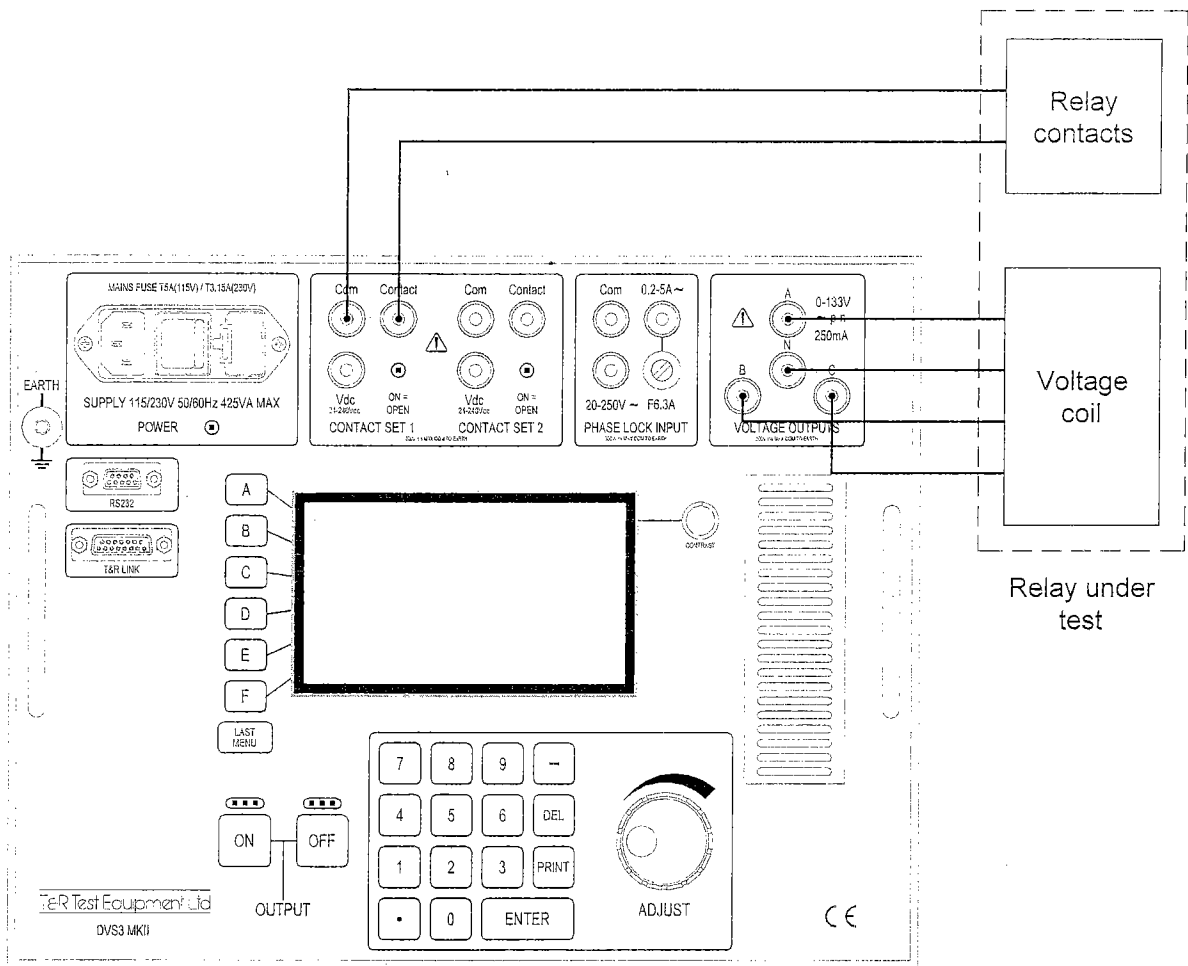

Figure 3.6 Connections for df/dt relays
- Connect an auxiliary supply to the relay if required (not shown in figure 3.6).